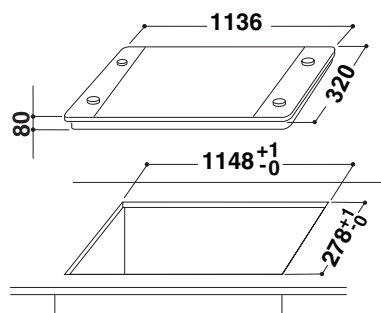
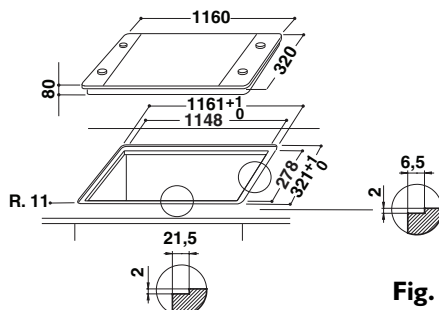

Fig. 1
Fig. 4
Make an opening in the top, of the dimensions shown in fig. 1.
Make an opening in the cabinet top, of the dimensions shown in fig. 1; to correctly install the hob a 2 mm deep milling must also be made in the top (Fig. 4).
- Carefully trim the excess sealing strip (fig. 4). In case of installation on wood (especially chipboard), if there are small spaces between the milling and the edge of the hob, fill with minimum amounts of silicone. The bottom part of the casing must be entirely accessible after installation.